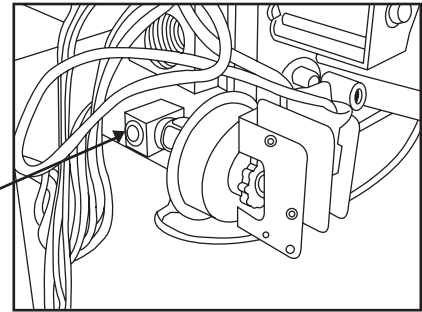

**Fig. 42 - LGPS Installed**
5. Apply pipe dope sparingly to male end of brass tee. Install propane low gas pressure switch (provided in kit) on nipple. After switch has been finger tightened, use small wrench on base of pressure switch for final tightening. When pressure switch is tight, switch terminals should point as shown in Fig. 42 relative to gas valve and clear control compartment access door.
6. Connect a manometer to the open end of the tee installed in the gas valve. (see Fig. 42).
11. Apply pipe dope sparingly to end of inlet gas pipe plug and install in unused end of 1/8" tee. Use a small back-up wrench on tee when tightening gas inlet pipe plug. (See Fig. 42).